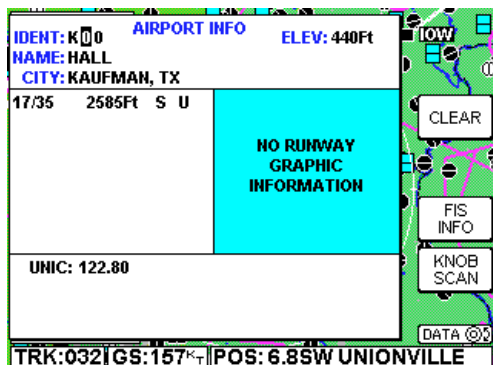

Figure 7
In addition to using the joystick to get airport information, the Control Knob may also be used. Sometimes it is not desirable to pan the map to an airport location some distance from the present position. In this case simply turn either knob and the **AIRPORT INFO** Page will appear as in Figure 7.
2. Turn the outer knob one click clockwise to move the cursor to the next character field as shown in Figure 7. Turn the inner knob to select the desired character.